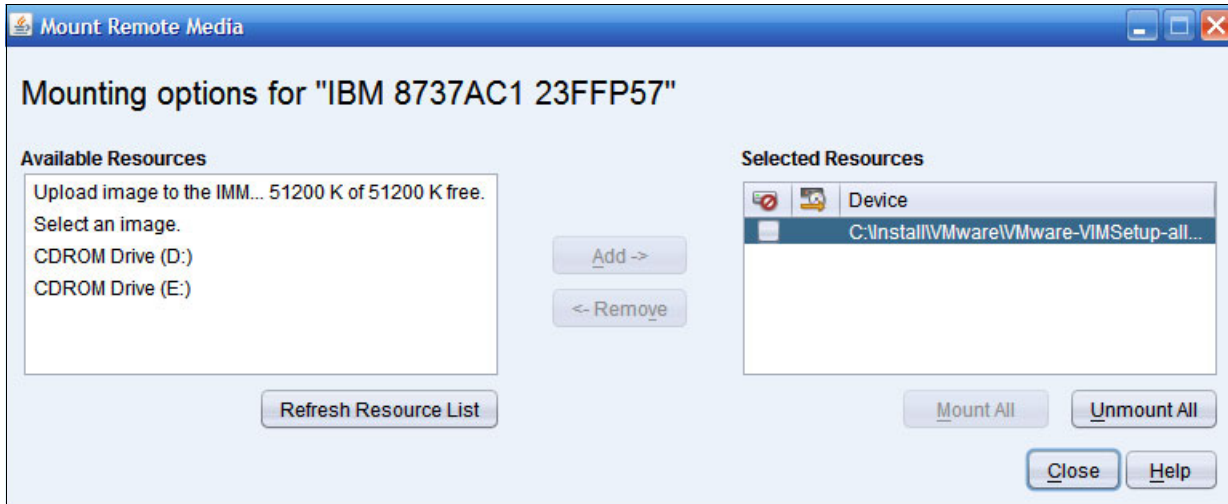

Figure 7-64 Mount Remote Media window that shows mounted resources
9. The image is now mounted as shown in Figure 7-64. If you need to unmount it at any time, click **Unmount All**. Leave the image mounted and click **Close**.